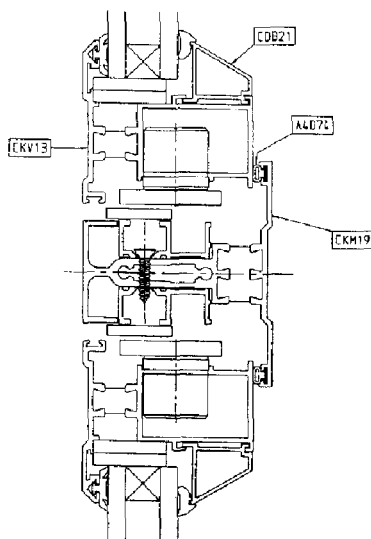

Fig.24.1. CKM19 MULLION - PN GEAR
Apply colour matched or clear silicone to both ends then place it in position and secure with No. 10 x 1" (PN) or No. 8 x 5/8" Type B (MILA) Pozi PH S/T screws - see Figs. 24.1 & 2.